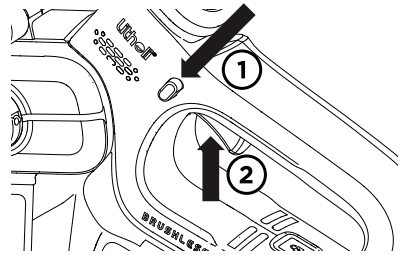

Fig. 14
2. Press the lock-off button, then fully press the on/off switch and hold in this position. With the mini chainsaw running, the lock-off button can be released. (See Fig. 14)